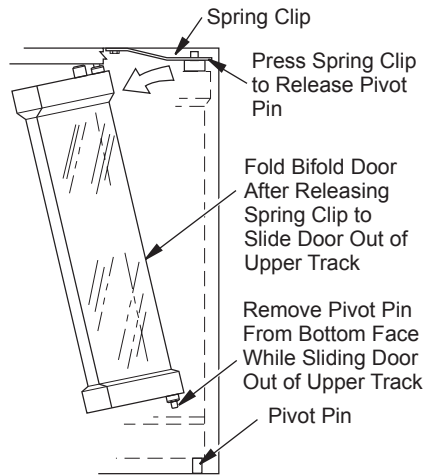

Figure 11 - Installing/Removing Glass Doors
- With handle facing center of firebox opening insert lower pivot pin on door panel into hole in bottom outer edge of firebox opening (see Figure 11).
2. Fully fold frame assembly and slide upper edge towards center of firebox opening until the guide pins are free of the frame rail (see Figure 11, page 8).